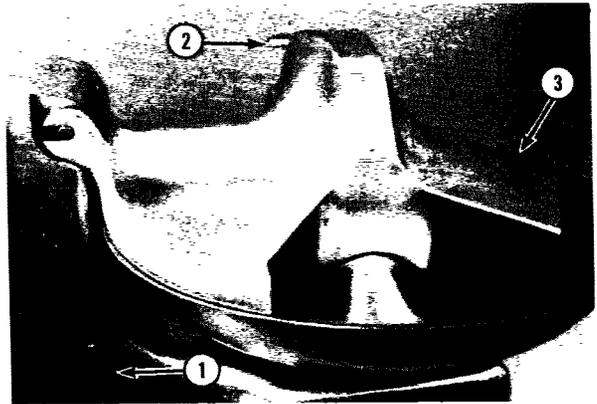

Fig. 2-1
- (1) Push the "On-Off" switch (1, Fig. 2-1) to the "Off" position.
- (2) Turn the locking knob (2, Fig. 2-1) 90°.
- (3) Lift the bowl cover (3, Fig. 2-1) and remove it from the hinge pins.
- (4) Remove the locking knob from the bowl cover by driving the Groov-Pin out of the base of the locking knob.